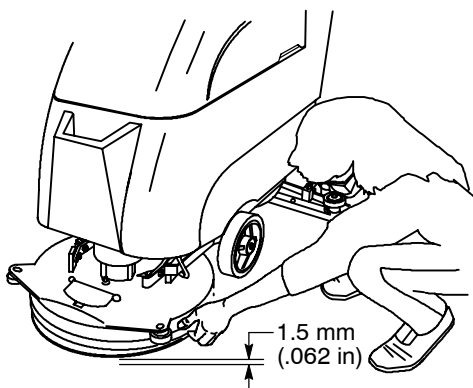

FIG. 16
- Check to see if skirt height is 1.5 mm (.062 in.) from floor all away around scrub head (Figure 16).